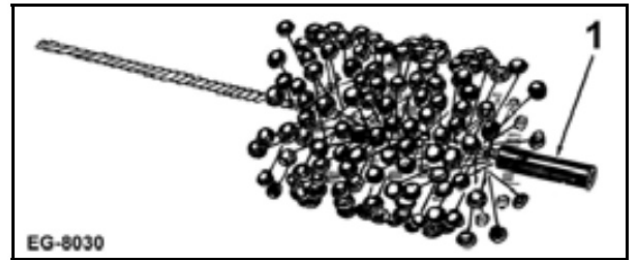

Figure 327 Glaze Breaking Brush
2. Cylinder bore can be deglazed using a 120 grit glaze breaking brush. Install a 50 mm (2 in) section of rubber hose over the end of the shaft (Figure 327).